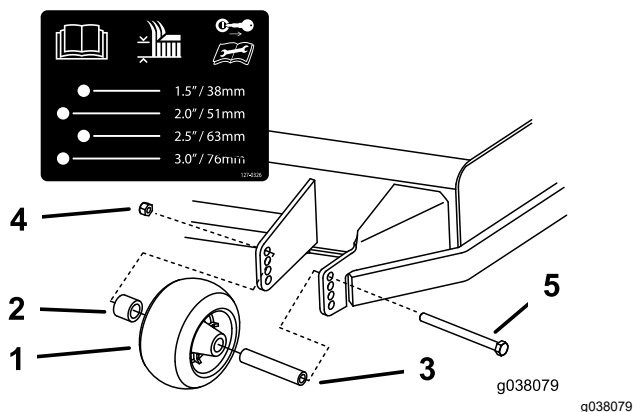

Figure 33
3. Adjust the anti-scalp rollers as shown in Figure 33.